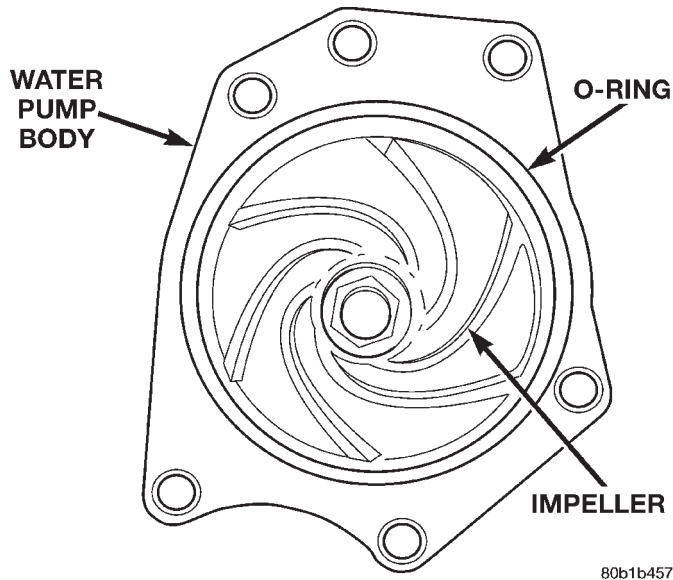

Fig. 16 Water Pump Body—3.5L Engine
(1) Clean all sealing surfaces on water pump and cover.
(2) Install new O-ring on water pump (Fig. 16). Apply synthetic grease to the sealing groove and O-ring to facilitate assembly.